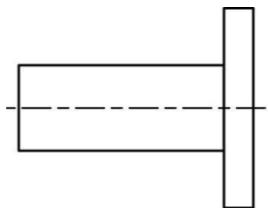

Fig.2
- a) Weld the flanges to the straight pipe runs (pipeline) considering that the straight pipe run (pipeline) axis should be perpendicular to the flange plain adjacent to PCF (see Fig.2).